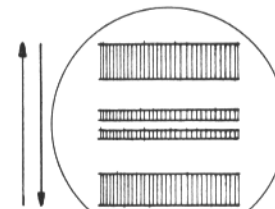

FIG 10
- 9- Connect the T.U. on the receiver. Put ON your VFO (TX) and key it (FSK or AFSK) by means of your TD with a tape of RY.
- 11- Rock slowly forth and back the dial tuning of your receiver to move up and down the so formed flipping line on the scope. At this step, they are more near to the center than on the outer sides of the scope (fig. 10)